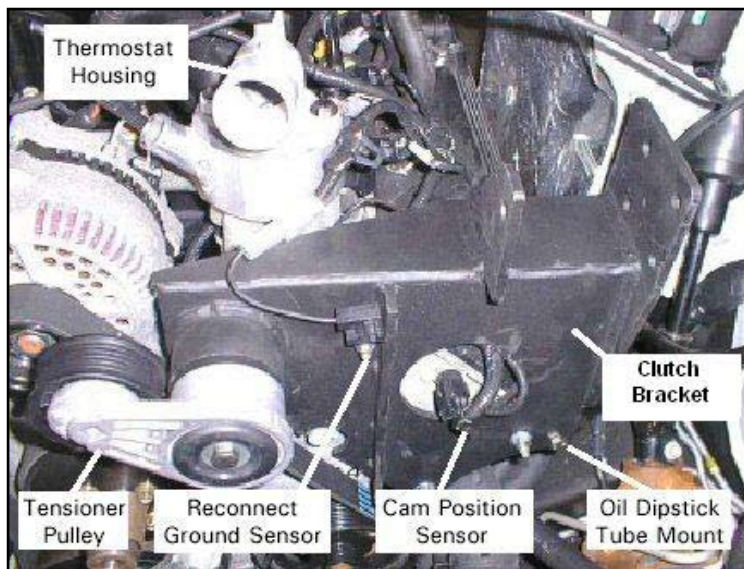

Figure 10. Route Ground Sensor through Hole with Cam Position Sensor
- Route the ground sensor through the hole with the cam position sensor and attach it to the top left-hand stud. Loctite® and torque all nuts to 15 –17 ft lbs. See Figure 10.
9. Bolt the oil dipstick tube to the hole in the clutch bracket. See Figure 10.